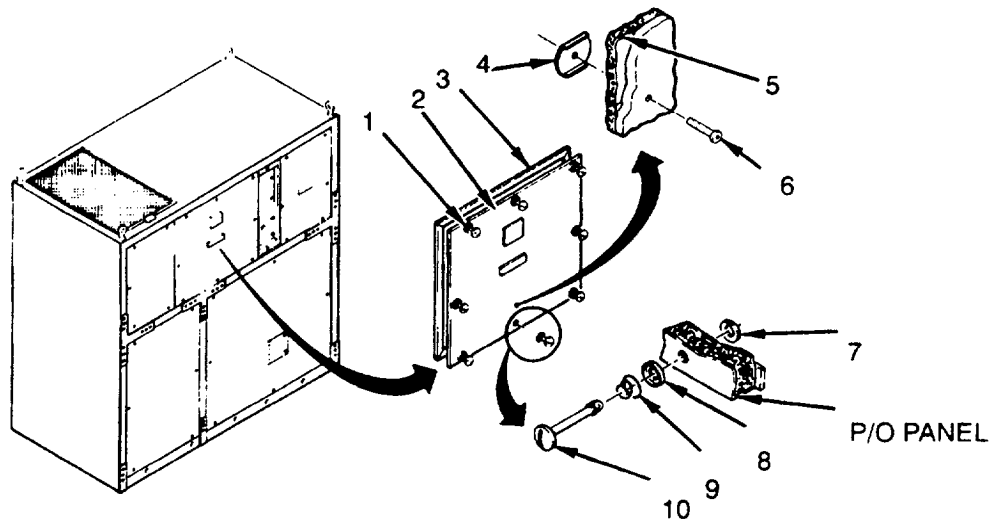

Figure 4-26. Center Front Evaporator Panel
1. Loosen eight captive fasteners (1) (see Figure 4-26).
2. Remove panel (2).